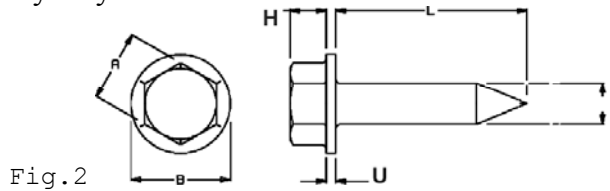

Fig.2
B. Tires may have up to and including 30 sheet metal screws per lineal foot of running surface. Such screws are to conform to the diagram in fig.2 and the following dimensions (No upward tolerance of these dimensions is permitted). Hex heads can be plain or slotted. Screws may protrude through the inside of the carcass and they may be fastened.
C. Tires may have up to and including 15 bolts per lineal foot of running surface. Such bolts are to conform to the diagram in fig.2 and the following dimensions (No upward tolerance of these dimensions is permitted). Bolts must penetrate the tire casing from outside and be fastened inside with a nut and washer or "T nut". Bolts may be installed in any pattern provided no more than the maximum number is installed in any lineal foot of the tire. Bolts must be flush with the outer surface of the tire, and the tire must have not more than 2/32" of visible tread (i.e. wear bars must be flush with the tread surface). Tires can be mounted using inner